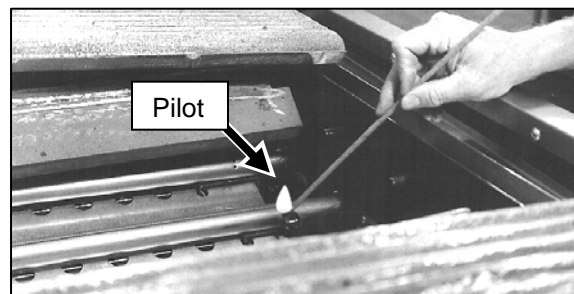

Fig. 3
## LIGHTING THE GAS PILOT (Fig. 3)
2. Remove the Top Grates. Turn the incoming main gas supply valve on. Light pilots using a taper (Fig. 3).